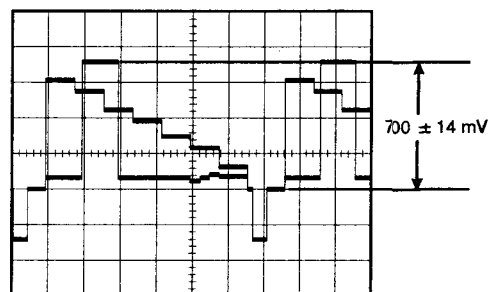

Fig. 5-1-8
- Adjust VR4 so that the COMP Y Level becomes  $700 \pm 14\text{ mV}$  as shown in Fig. 5-1-8.